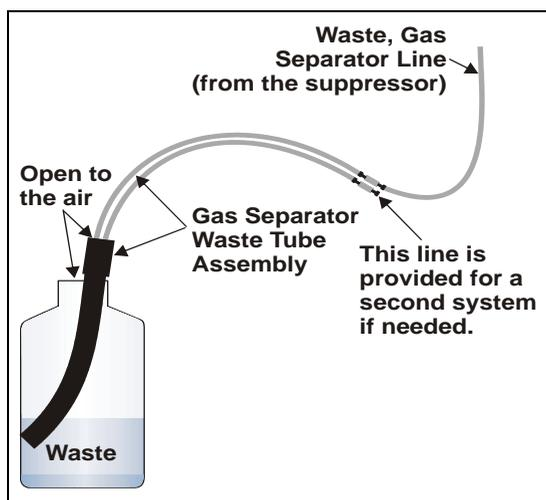

Figure 22. Gas Separator Waste Tube Installation
2. Connect the **WASTE, GAS SEPARATOR** line from the suppressor to one of the 3-mm (1/8-in) ID white Teflon lines on the gas separator waste tube assembly (see Figure 22).
DO NOT CAP THE WASTE CONTAINER: The ICS-1000, Atlas Electrolytic Suppressor, and Self-Regenerating Suppressor (SRS) use an electrolytic process that results in the production of small amounts of oxygen or hydrogen gas. To ensure that the gas is not trapped in a closed container and allowed to concentrate, install a 1.3-cm (0.52-in) ID black gas separator waste tube (P/N 045460) in an uncapped waste container. Connect the Waste, Gas Separator line to the waste tube (see Figure 22).